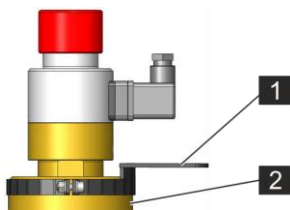

Fig. 100: Removing the clamp
1. ➔ Fasten both halves of the clamp (Fig. 100/1) to the upper collar of the valve (Fig. 100/2) with a torque of 5 ± 0.5 Nm (3.69 ± 0.37 ft-lb).